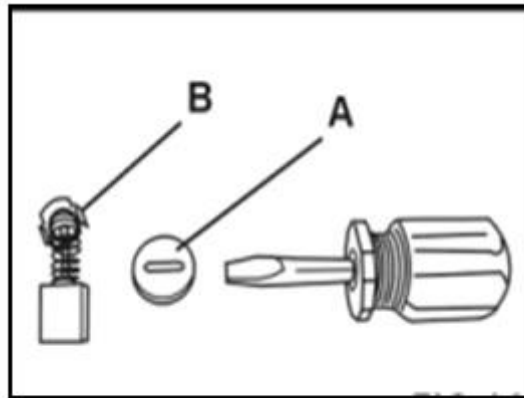

Fig.25
Your saw's carbon motor brushes must be replaced when they are worn down to 6 mm or less in length from the brush spring. Be sure brushes are clean and slide freely in the brush holder. Always replace both carbon brushes at the same time. Never replace just one of the brushes. Use only approved replacement brushes. Use a flat-blade screwdriver to remove the brush holder cap (A) and remove the worn carbon brushes (B). Insert new carbon brushes and re-secure the brush holder cap. **Fig.25.**